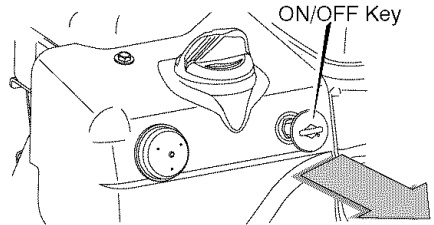

Figure 19
2. Pull out and remove the ON/OFF key (see Figure 19). Keep the